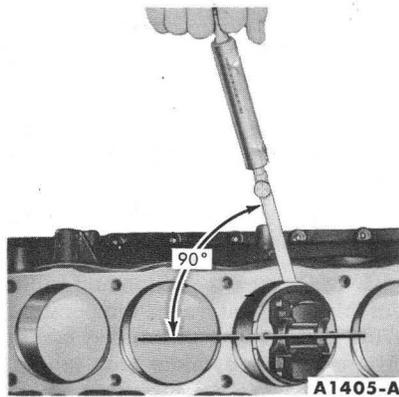

FIG. 68—Piston Fit
5. Position the ribbon in the cylinder bore so that it extends the entire length of the piston at 90° from the piston pin location. Invert the piston and install it in the bore so that the end of the piston is about 1½ inches below the top of the cylinder block and the piston pin is parallel to the crankshaft axis. Hold the piston and slowly pull the scale in a straight line with the ribbon, noting the pull required to remove the feeler ribbon (Fig. 68).